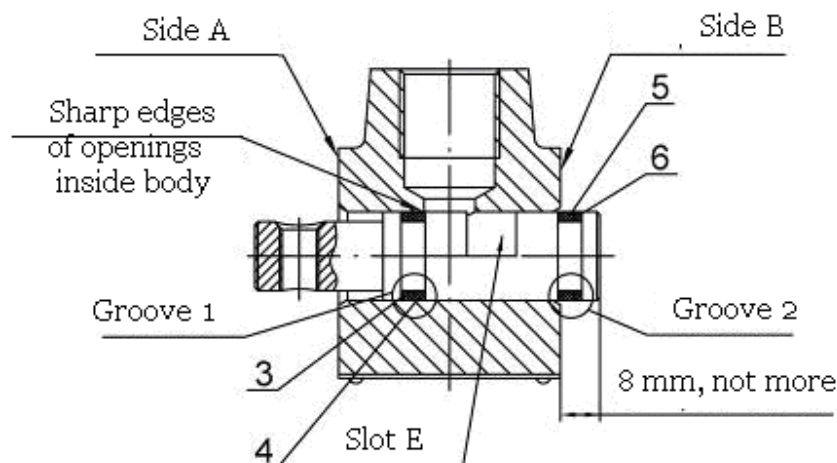

Figure 7.8
- a) move control valve 5 (Figure 7.8) towards side “B” by 7...8 mm, maximum! (to avoid cutting rings 3 and 4 against sharp edges of three inside openings in the body);